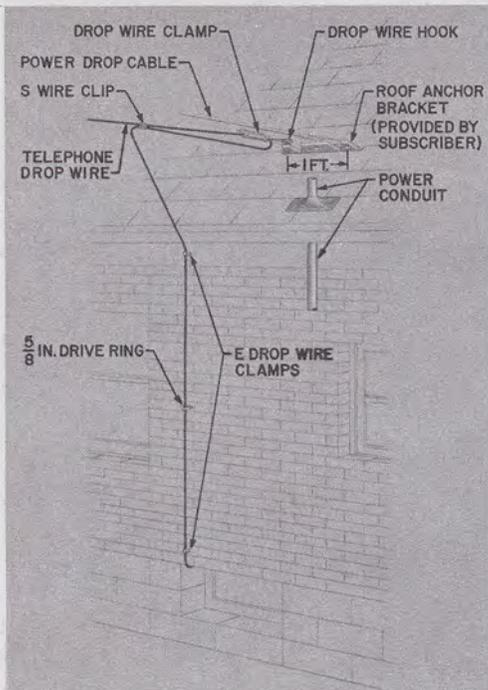

Fig. 12—Drop Wire Attached to Roof Anchor Bracket
- (d) On joint-use fixtures observe location of the power service drops in order to avoid body contact. Wear rubber gloves and avoid body contact when making attachment to the fixture. Obtain a separation of at least 1 foot between telephone and power wires (Fig. 12 or 13).